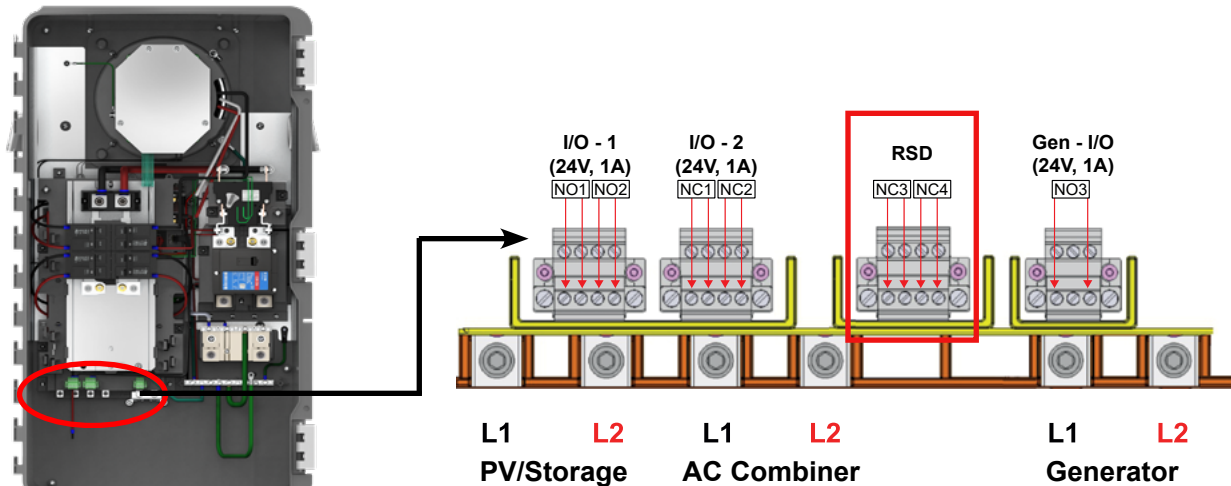

Figure 1: Layout of auxiliary contacts in Enpower, Terminals for connecting RSD are indicated in red
- A) The Enpower R2 comes with multiple auxiliary contacts as indicated in Figure 1.
- B) The contacts NC3 and NC4 are for wiring the RSD (indicated in the red box in Figure 1).